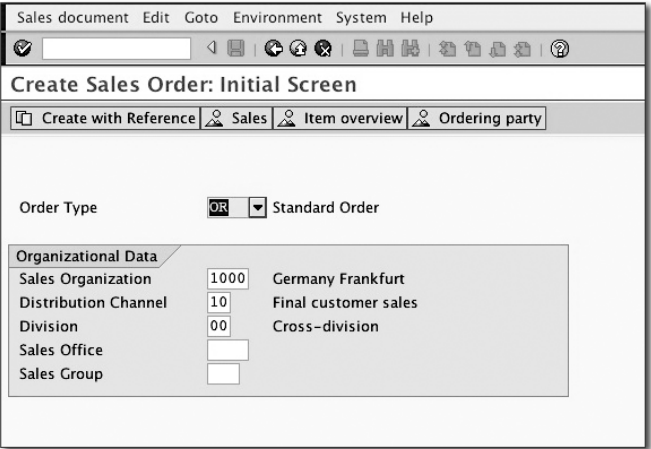

Figure 3.12 Create Sales Order: Initial Screen – Item Proposal Sample
1. On the **CREATE SALES ORDER: INITIAL SCREEN**, enter the sales order document type (i.e., **OR** – Standard Order), fill in your sales organization data, and press **[Enter]**. See Figure 3.12 for an example.